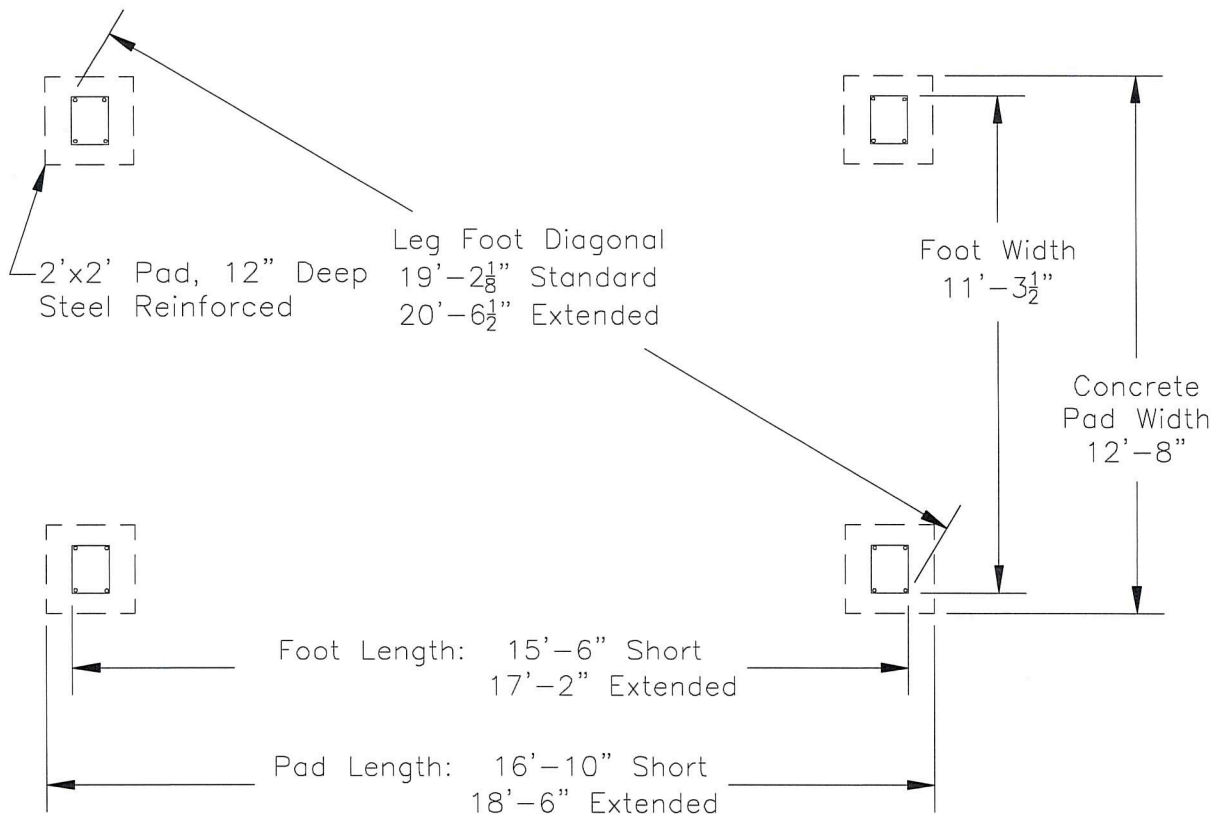

Figure 3. 12000 lb Lift, Leg Foot Location
| Figure 3, Leg Foot Locations.....                | Page 8  |
- The floor must be concrete with a minimum thickness of 4 inches and steel reinforced per commercial practice. If pads are used, they must be 2 feet square with a minimum thickness of 12 inches and steel reinforced per commercial practice. Fig. 3 gives the pad layout dimensions.
3. Refer to Figure 3 for the dimensions for the leg foot location. Refer to Figure 2 to determine where to locate the sides and ends of the leg foot rectangle with respect to walls and other obstacles at the installation. Include additional clearance where required near walls and obstacles.